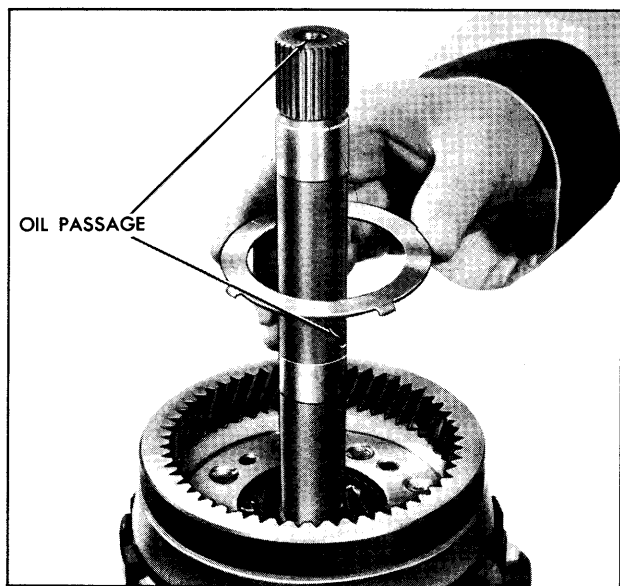

Fig. 7E-121 Installing Thrust Washer
7. Install the output flange into the output carrier assembly. (Fig. 7E-119)